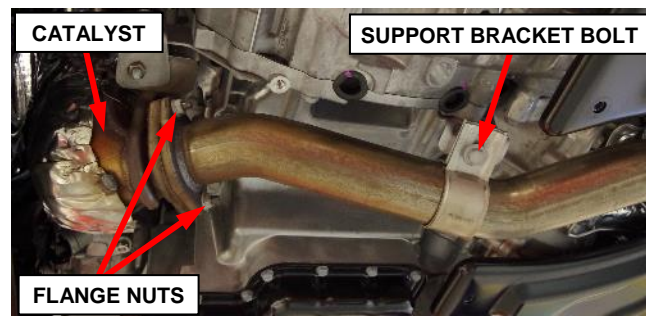

Figure 58 – Exhaust Crossunder Pipe
- b. Remove the crossunder pipe center support bolt (Figure 58).
- c. Remove and **DISCARD** the front crossunder pipe flange nuts securing the cross under pipe to the catalyst (Figure 58).